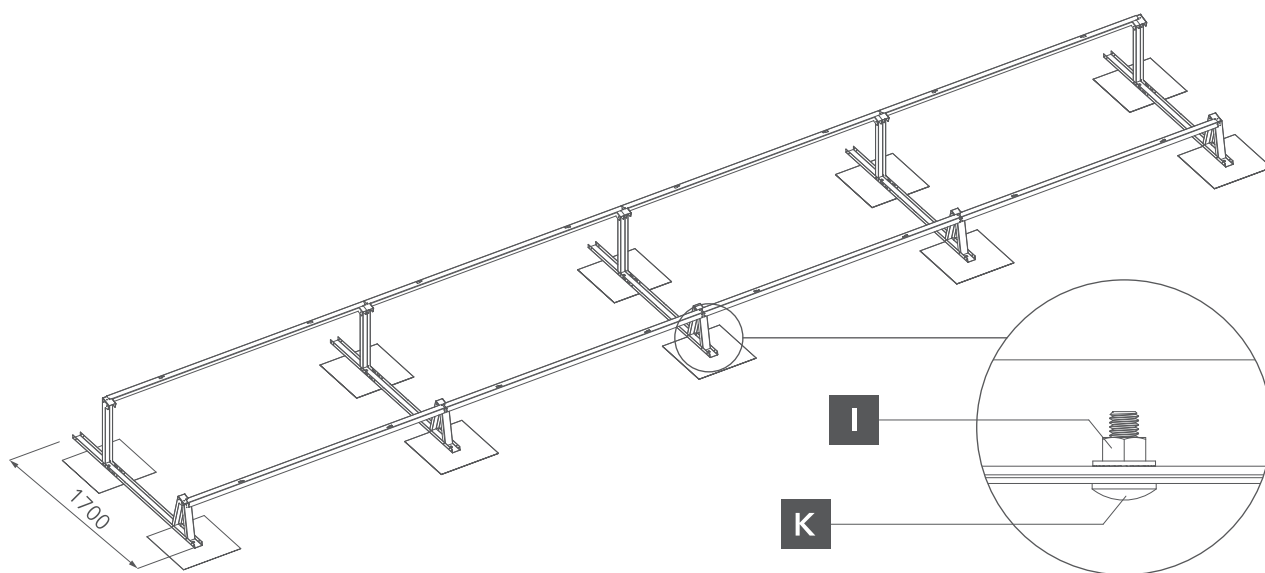

Fig. 5: Fastening the mounting triangle to the fastening element.
- 4** The mounting triangles should be fastened to the screws and tightened with a flange nut. tightened (Fig. 5).